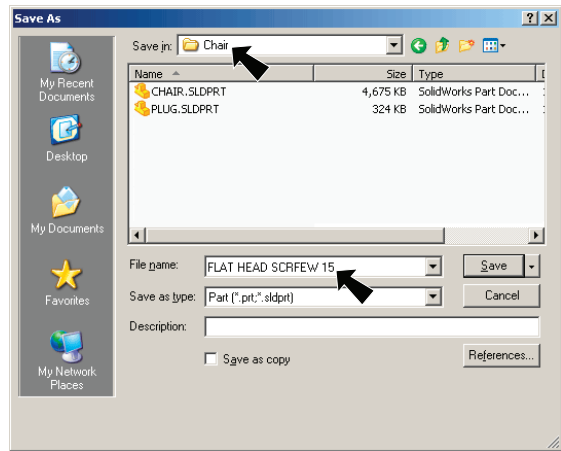

Fig. 5
Step 2. In the Save As dialog box: **Fig. 5**